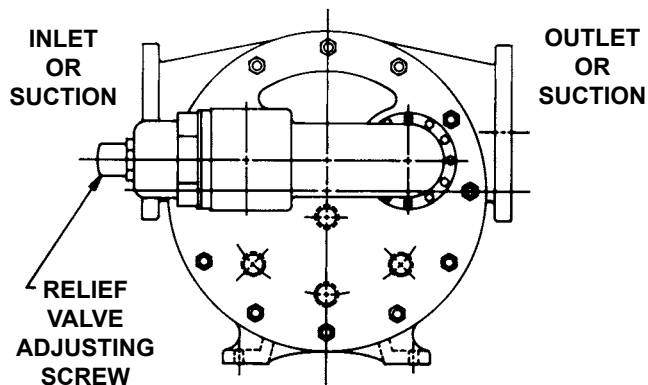

FIGURE 2
4. Relief valve adjusting screw cap must always point towards suction side of pump. If pump rotation is reversed, remove the pressure relief valve and turn end for end. **Refer to Figure 2 below.**
If relief valve was not removed from head, install on head with adjusting screw cap pointed toward such port. **Refer to Figure 2, page 2. For PRESSURE RELIEF INSTRUCTIONS, refer to page 14.**